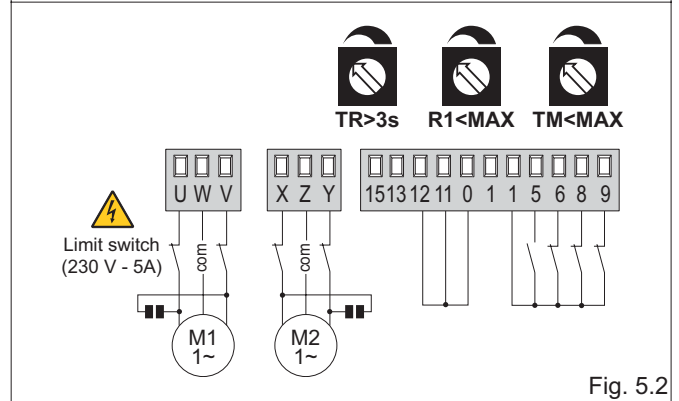

Fig. 5.2
- **(Fig. 5.2) Door wings stop against limit switches and in the event of obstacle detection.**